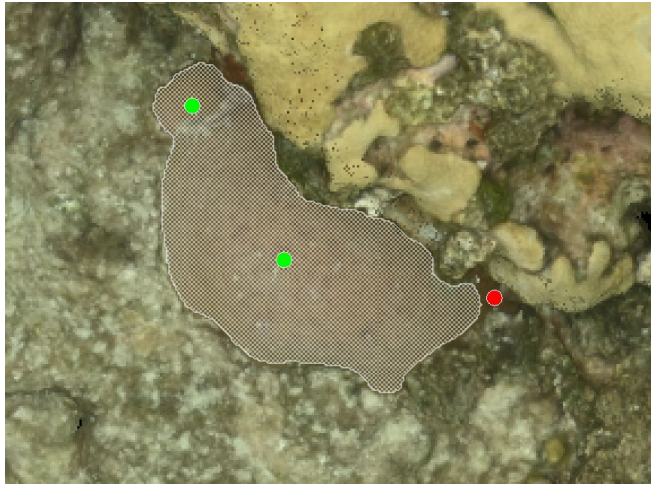

Figure 131. Example of removing areas from segmentation.
4. To remove areas from the segmentation, hold Shift + right-click on area(s) to be removed. A red dot will appear in removed areas (Figure 131).